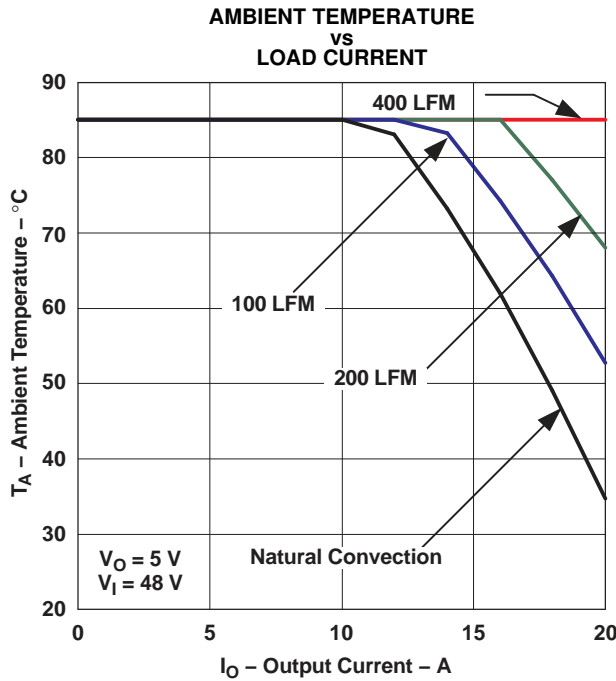

Figure 12.
- (2) The temperature derating curves represent operating conditions at which internal components are at or below manufacturer's maximum rated operating temperature. Derating limits apply to modules soldered directly to a 100–mm × 100–mm, double-sided PCB with 2 oz. copper. For surface mount packages, multiple vias (plated through holes) are required to add thermal paths around the power pins. Please refer to the mechanical specification for more information. Applies to Figure 12.